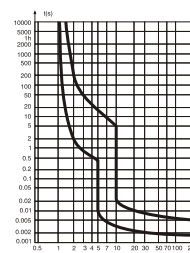

Figure 1 Type C thermal/electromagnetic tripping characteristic curve
- The protection characteristic curve of the circuit breaker is shown in Figure 1